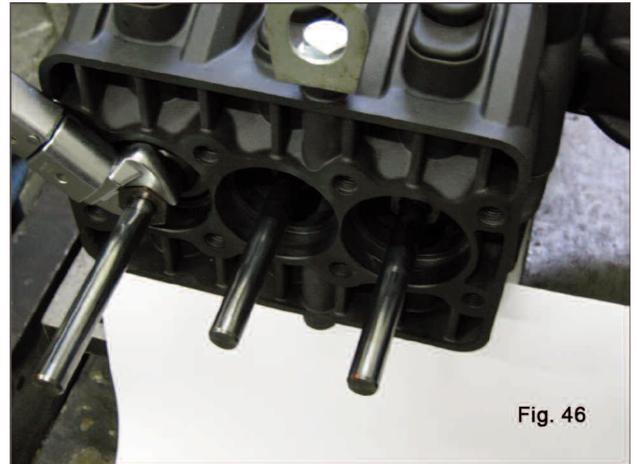

Fig. 46
- Remove the pumping elements with a fork wrench and check of wear as indicated in fig. 46 and fig. 47, replace them if necessary.